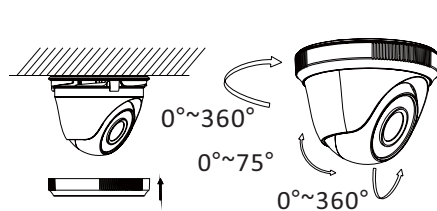

Figure 2-7 3-axis Adjustment
- Adjust the camera according to the figure 2-7 to get an optimum angle and tighten the trim ring.